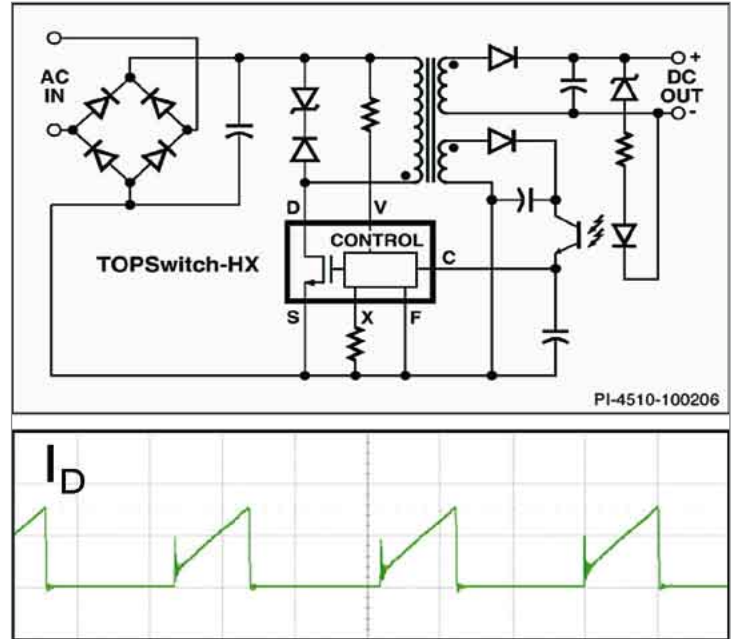
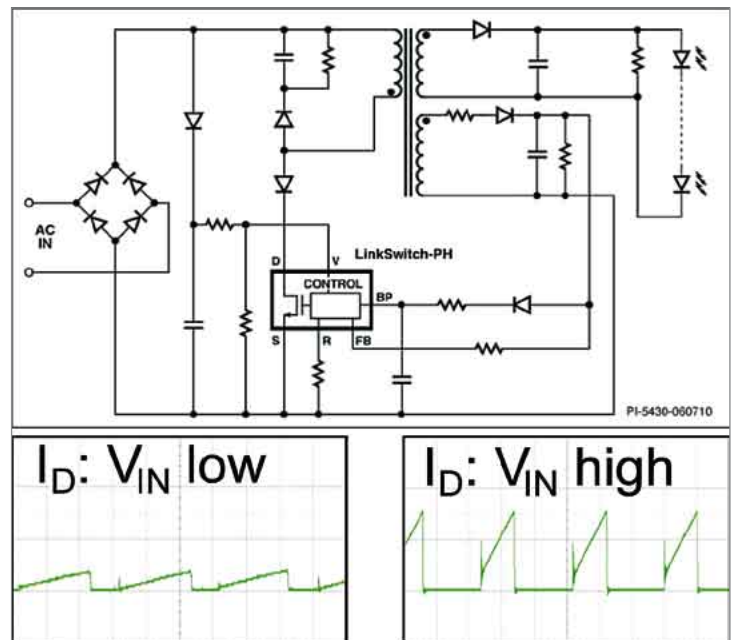

Figure 5: Standard flyback circuit using TOPSwitch-HX.
Figure 6: Flyback power supply optimized for constant current LED load.
It is clear that a standard flyback configuration for an LED driver simply will not do, and a controller optimized specifically for driving LEDs is required. Figures 5 and 6 illustrate this point.
Figure 5 is a constant current output flyback power supply using a TOPSwitch™-HX controller from Power Integrations (PI). The output voltage is determined by the Zener diode at the output. This provides a feedback signal to the controller via the optocoupler. The controller responds to the voltage feedback signal at input C by adjusting the duty cycle of the integrated high-voltage power MOSFET switch to maintain the required output. For a given load and input voltage, the circuit will operate at a fixed frequency and duty cycle.
Figure 6 shows a flyback power supply implemented using the new LinkSwitch™-PH. The controller incorporates several new features designed specifically for driving LEDs. The circuit differs from Figure 5 in that it employs primary-side regulation. This eliminates the optocoupler and secondary-side control circuitry. The second-secondary winding (bias winding) on the transformer performs two functions: it provides power to the controller via the BP pin and current feedback via the FB pin. The two secondary windings are closely coupled, with the result that the voltage developed across the bias winding is proportional to the current through the LED load. The controller responds to current feedback at the FB pin by adjusting the duty cycle of the integrated high voltage power MOSFET to maintain current regulation.